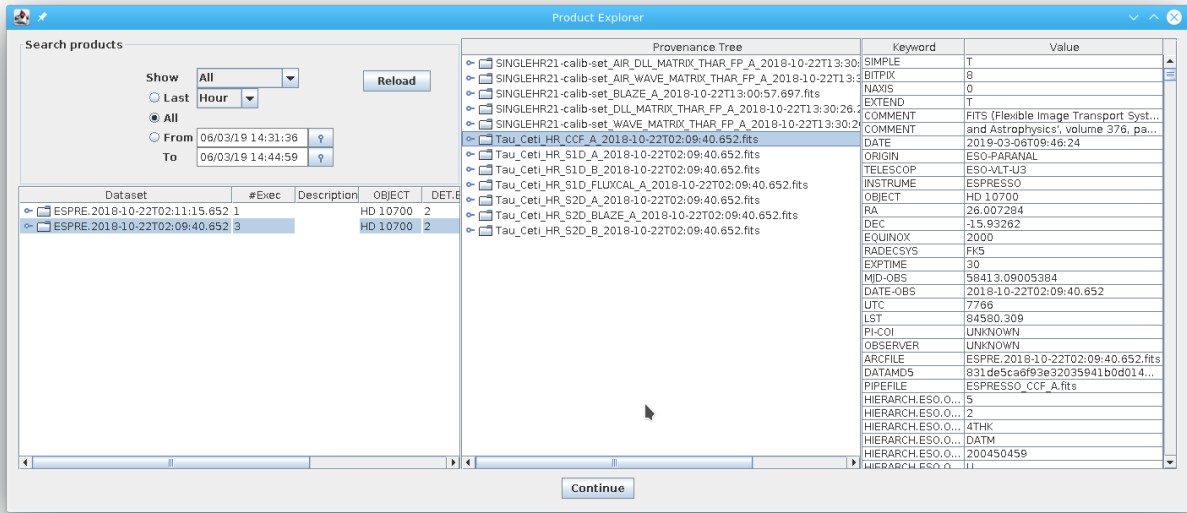

Figure 3.0.4: The Provenance Explorer shows all datasets reduced in previous executions together with the full reduction chain for all the pipeline products.
9. Once the reduction of all datasets has finished, a pop-up window called *Product Explorer* will appear, showing the datasets which have been reduced together with the list of final products. This actor allows the user to inspect the final data products, as well as to search and inspect the input data used to create any of the products of the workflow. Figure 3.0.4 shows the *Product Explorer* window. A full description of the *Product Explorer* will be presented in Section 6.3.5.